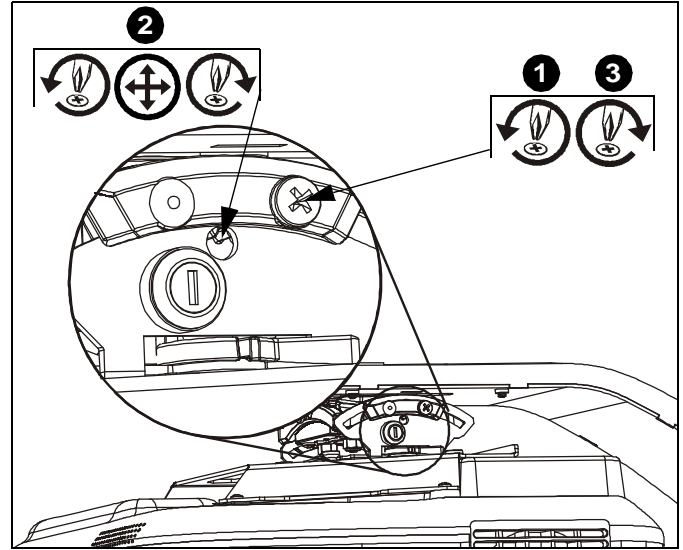

Figure 14
1. Loosen pitch adjustment locking screw using a #2 Phillips screwdriver. (See Figure 14)